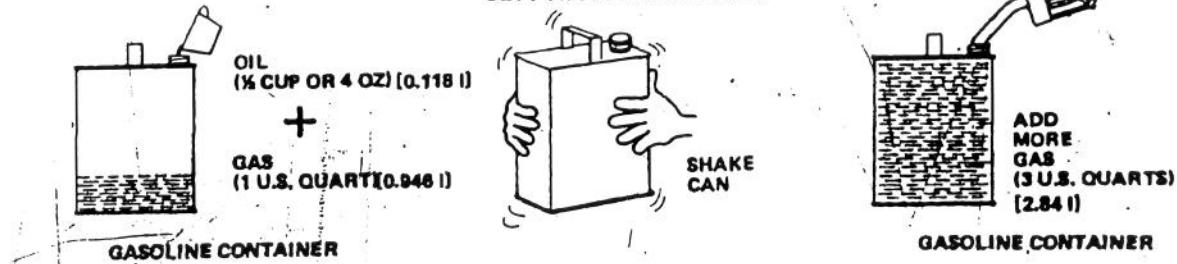

Figure 5
1. Add 1 U.S. quart of leaded REGULAR gasoline to a gasoline container (Fig. 5).
2. Pour  $\frac{1}{2}$  cup - 4 oz (0.118 l) - of two cycle engine oil into the gasoline container (Fig. 5). DO NOT use multi-viscosity oils.